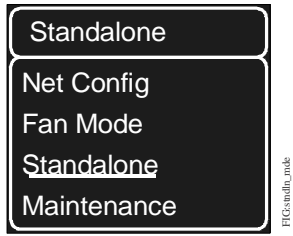

Figure 22: Selecting the Stand-Alone Mode
- Use the Up/Down buttons to select **Standalone** on the menu (Figure 22).